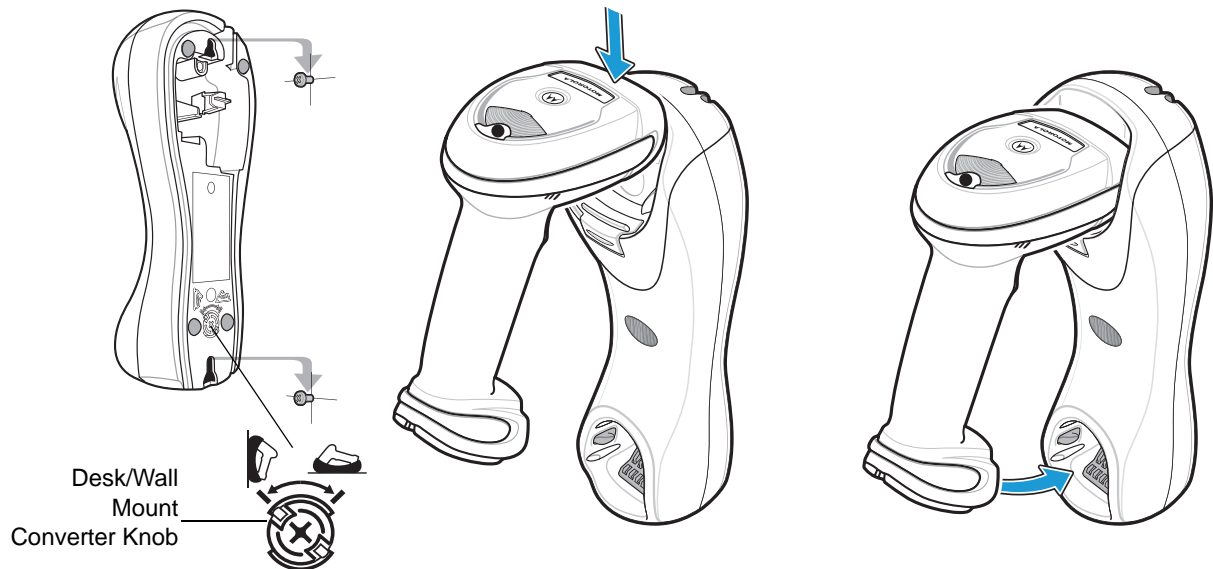

Figure 1-11 Vertical Mount - Inserting the Linear Imager Scanner in the Cradle
3. Ensure the desk/wall mount converter knob is in the position shown in Figure 1-11.